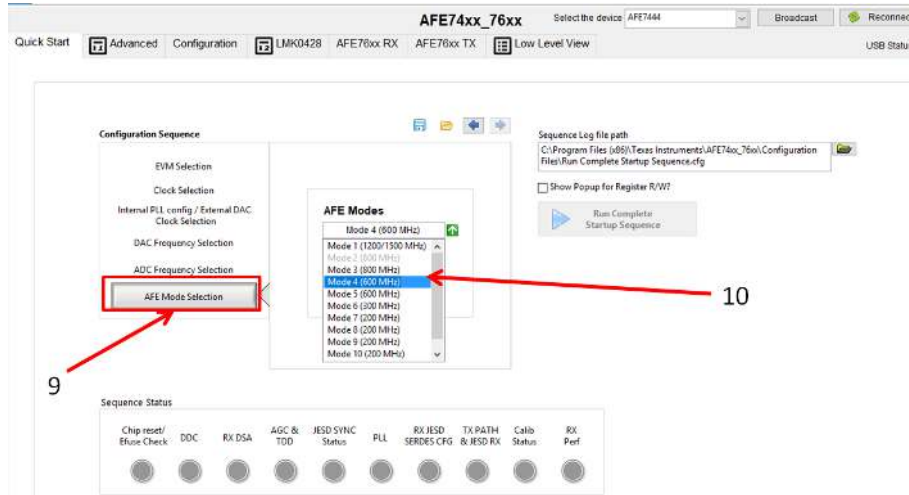

Figure 13. AFE Mode Selection Page
9. Navigate to the *AFE Mode Selection* page, labeled as 9 in Figure 13.
10. Select *Mode 4 (600 MHz)*, labeled as 10 in Figure 13.